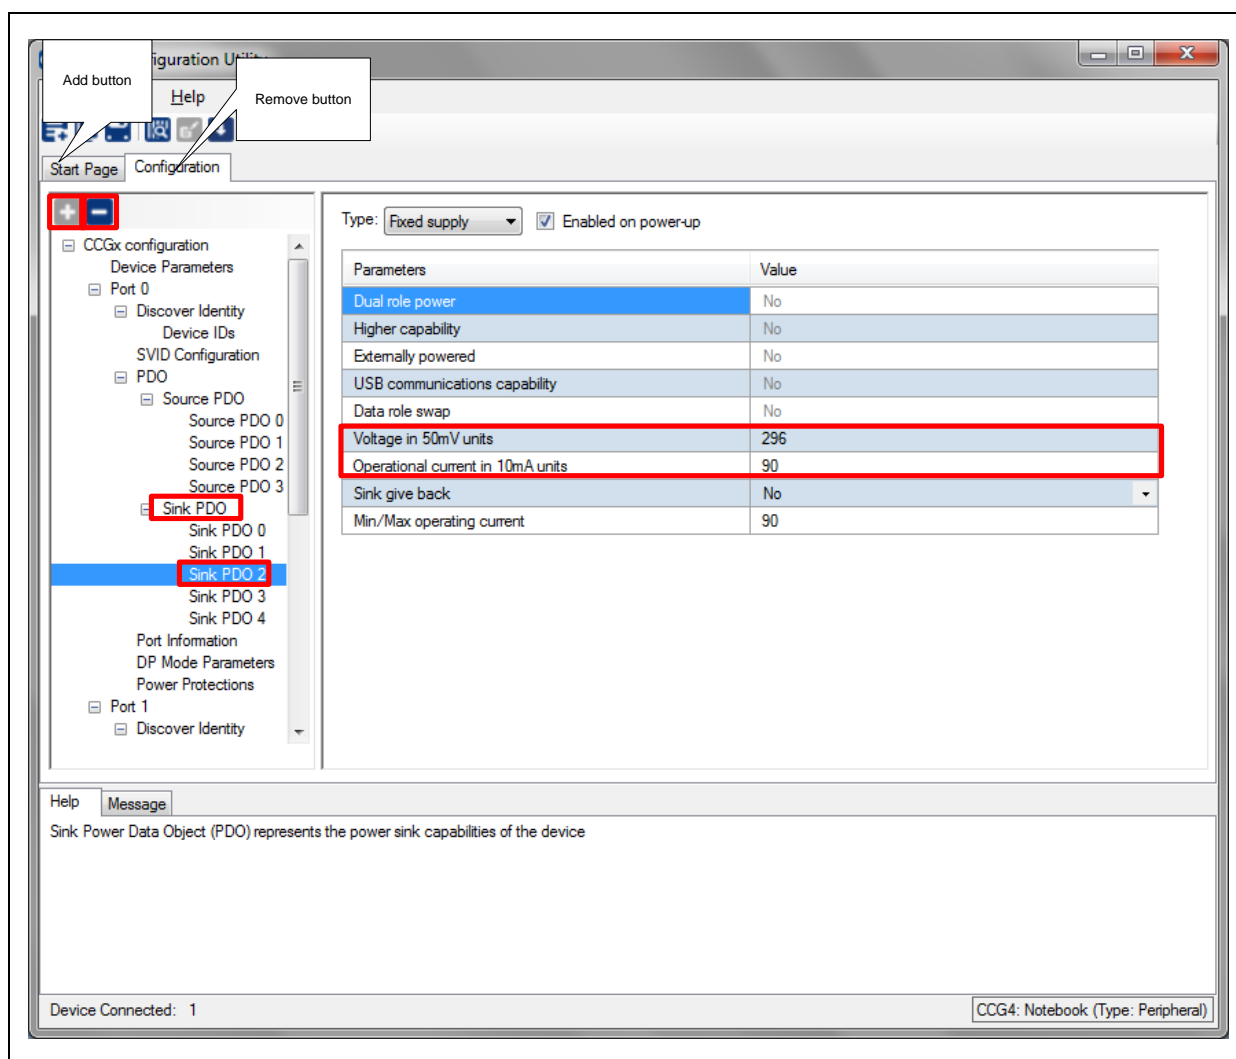

Figure 17 Sink PDOs supported by CCG4 device of CCG4 EVK
2. Select the **Sink PDO** option in the CCGx configuration list for Port 0 (corresponds to the Type-C port of CY4541 CCG4 EVK). It can be seen that the CCG4 supports five Sink PDOs listed as Sink PDO 0 – 4 as shown in Figure 17 and the window on the right will show the values of voltage and current corresponding to the selected PDO. For example, clicking on Sink PDO 2 will show the corresponding voltage of 14.8V, 900mA (expressed in units of 50mV, 10mA) in the main window. That is, $296 * 50\text{mV} = 14.8\text{V}$ and $90 * 10\text{mA} = 900\text{mA}$.